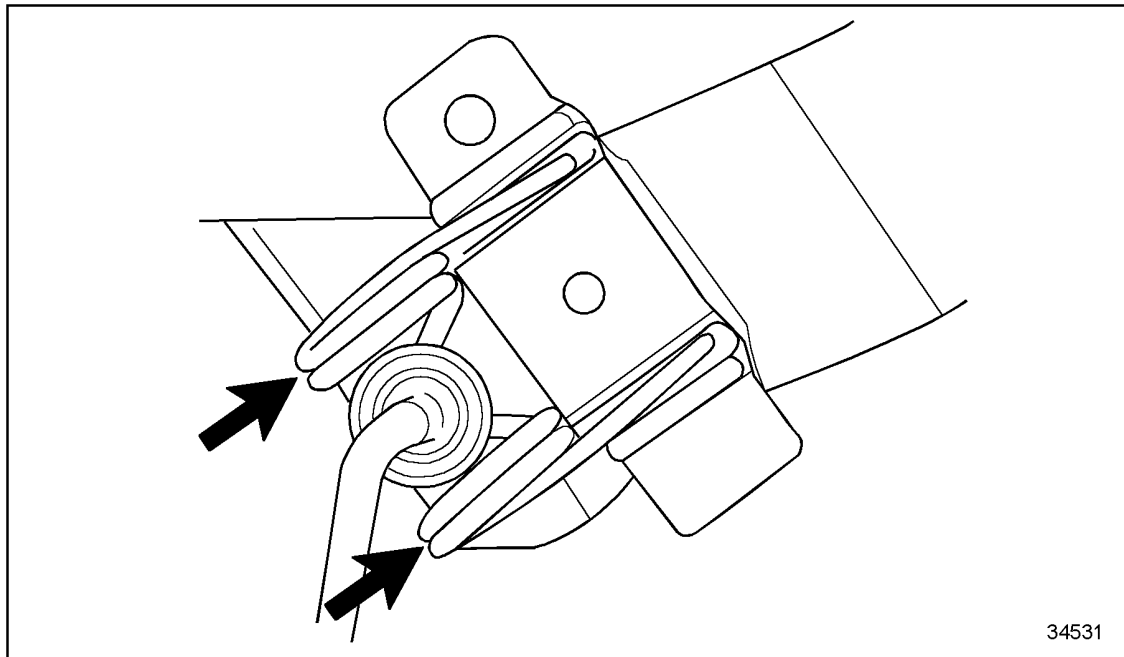

Figure 1-432 Installing the Slave Piston Assembly Torsion Spring
4. Install the slave piston assembly torsion spring with the ends over the bridge. See Figure 1-432.